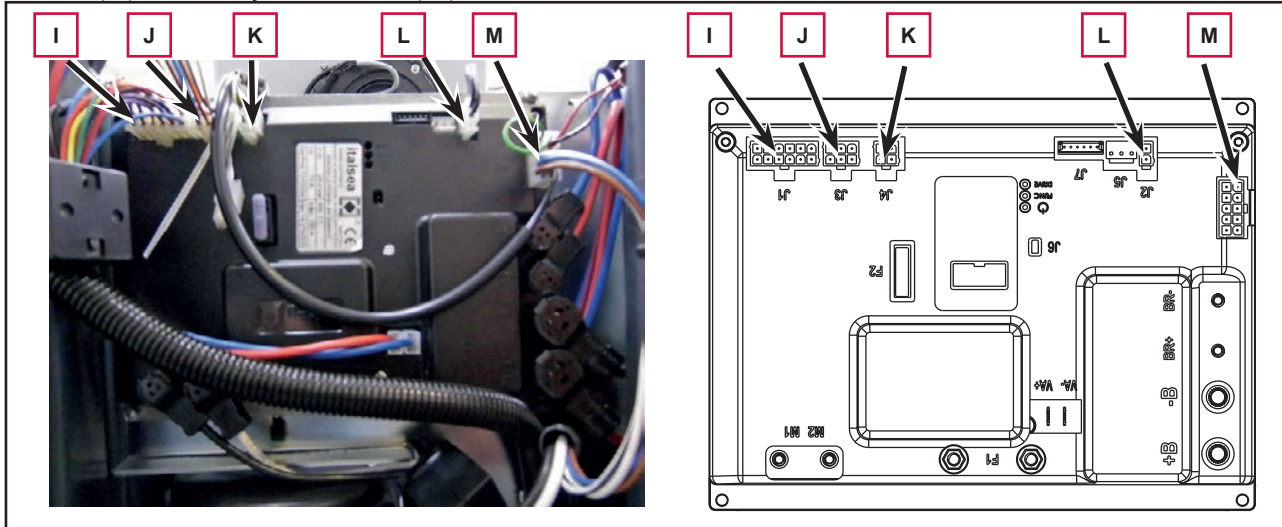

Figure 13
8. Disconnect the following connections (Figure 13):
- (I) Key, accelerator and steering wheel electronic board connection (J1).
- (J) Squeegee actuator, beacon light and driver's seat sensor connection (J3).
- (K) Battery charger connection (J4).
- (L) Brush deck actuator connection (J2).
- (M) Accessory connection (J8).